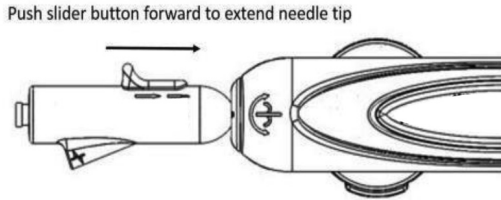

Figure 2 – To advance needle tip, push slider button forward
- Under fluoroscopic visualization (and intracardiac echocardiography, if available), withdraw device assembly from the SVC to the right atrial septum and then to the fossa ovalis (FO).
- Once the device has been confirmed to be located on the FO, advance the slider button on the handle of the AcQCross Qx to extend the needle tip and puncture into the left atrium (See Figure 2).